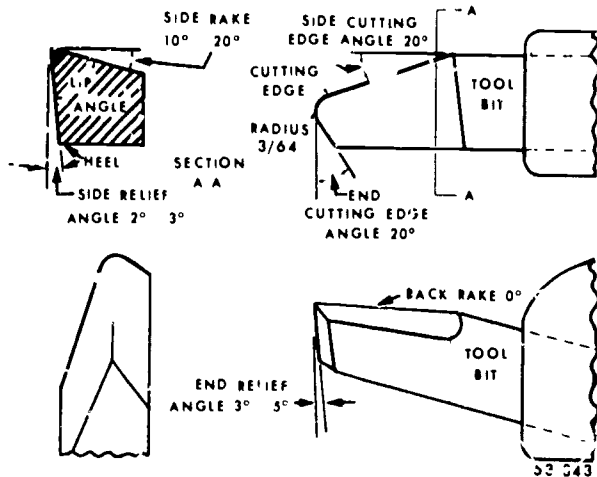

Figure 2-2 Roughing tool angles
**Roughing.** The roughing tool, also called a bullnose roughing tool, is intended for heavy-duty cutting. It can withstand the pressure of heavy feeds and depths of cut. Figure 2-2 shows the various angles used for a left-hand roughing tool. Left- and right-hand roughing tools can be ground with a smaller nose radius and are used for finishing vertical surfaces.